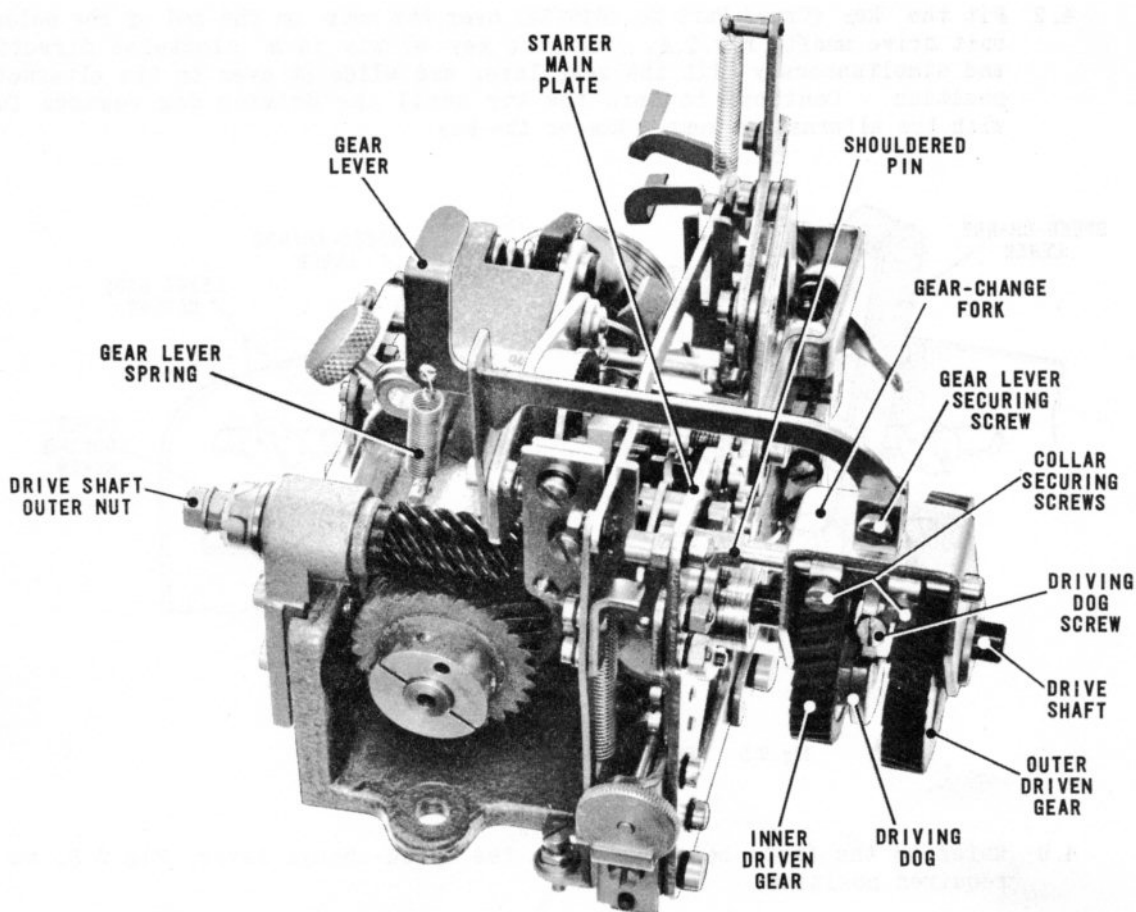

Fig. 2.4 SELECTOR UNIT FITTED WITH A GEAR-BOX
- 3.3 Disconnect the gear lever spring, Fig.2.4. Remove the screw securing the gear lever and withdraw the lever. Slacken the two collar securing screws so that the collars are free to move on the shouldered pin.
- 4.2 Fit the key (Creed Part No.4019/54) over the nuts on the end of the selector unit drive shaft, Fig.2.4. Turn the key slowly in a clockwise direction, and simultaneously lift the gear lever and slide it over to its alternative position. Continue to turn the key until the driving dog engages fully with the alternative gear. Remove the key.